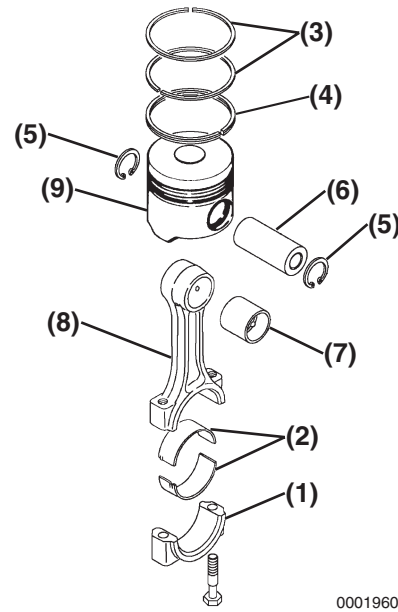

Figure 6-127
2. If removed, install a new wrist pin bushing (**Figure 6-127, (7)**) using a press and the appropriate service tool. Be sure to align the oil holes.
3. Reinstall one circlip (**Figure 6-127, (5)**) into the piston. Ensure the circlip is securely seated in the groove.